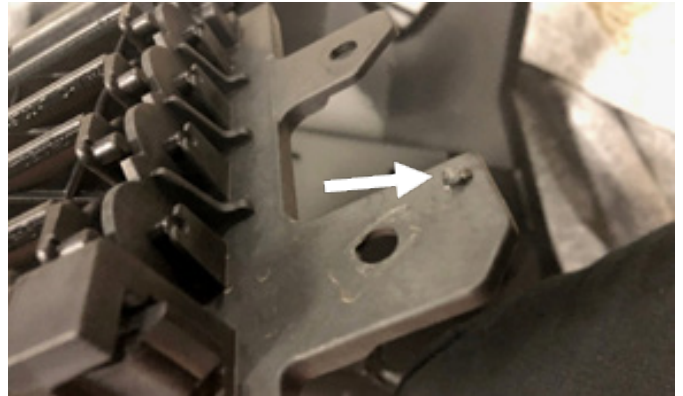

Figure 17
16. With the louvers removed, use a cutting tool to remove the plugs on both sides. Figure 17.